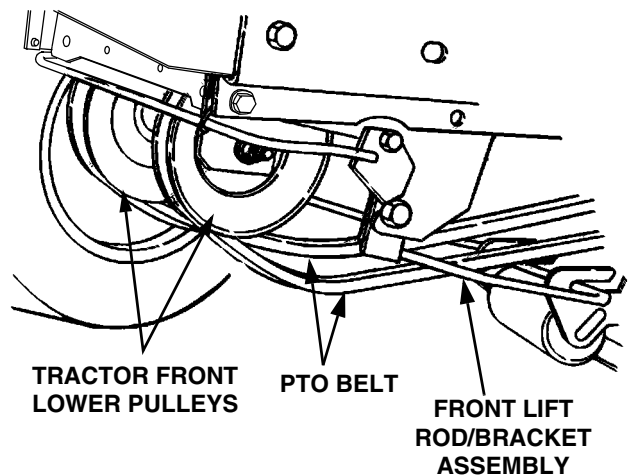

Figure 39
5. Pass the PTO belt downward, inside the tractor frame, until the belt is below the two tractor front lower pulleys and pull the belt clear of the tractor (See Figure 39).